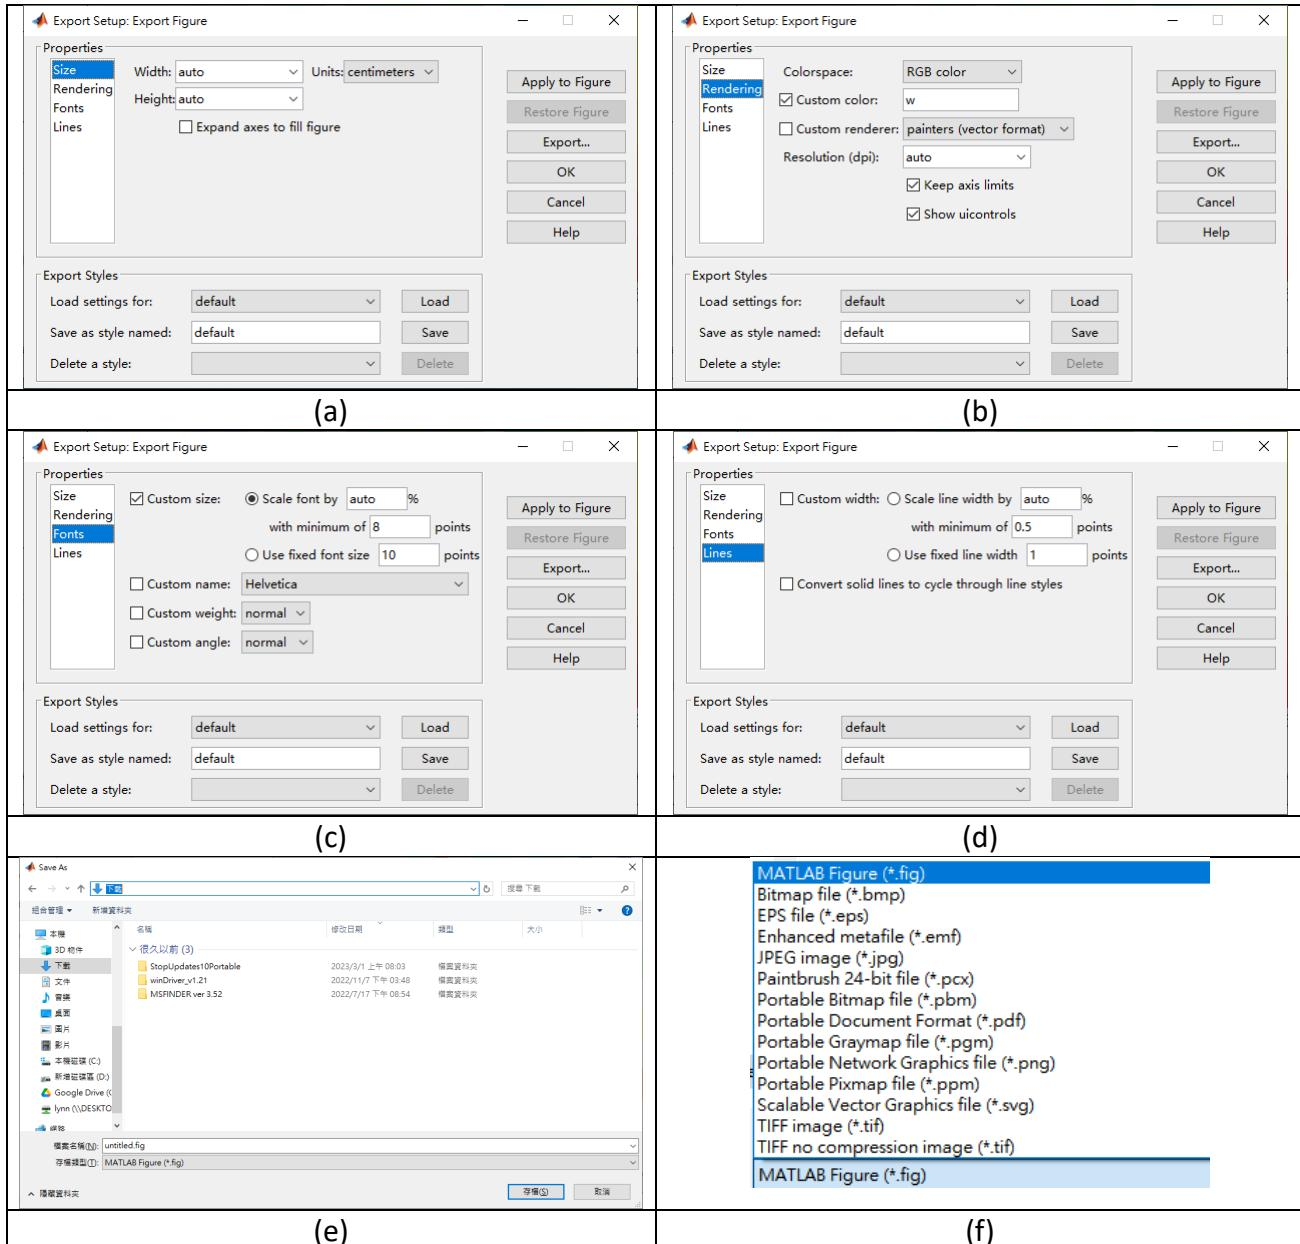

Figure 13. The windows to export the heatmap image.
- 7 Export the heatmap plot:** The quantitation heatmap can be exported to an image file by pressing the “Export Plot” button on the top of the heatmap. A window will pop up to let the user to adjust the size of the image, as shown in Figure 13(a). By clicking on the Rending in the left panel, the user can also select the color space, background color, renderer, and resolution, as shown in Figure 13(b). By clicking on the Fonts in the left panel, the user can change the font properties in the plot, as shown in Figure 13(c). By clicking on the Lines in the left panel, the user can also change the font properties in the plot, as shown in Figure 13(d). After the all the changes are made, the user can click on the “Export” button in the righthand side, a new window will appear to select the folder and file name of the output image as well as the image format, as shown in Figure 13(e). The supported image formats are listed in Figure13(f).
There are three more buttons at the right-hand side of the correction methods. The “More >” button is used to show the same compound found in the other ion chromatograms. Once pressed, the text of the button will be changed to “Less <” and an additional panel (panel (c) in Figure 17) will appear to show such plots, as shown in Figure 30. This panel shows the overlapped peaks (zoomed-in horizontally) of all sample files at the top and the detected peak in individual file below for easy inspection of the same compound across sample files. The plot of overlapped peaks is useful in checking the consistency of the compound across all the sample files. To remove the panel, the user can press the “Less <” button. The user can further use the four buttons next to the overlapped plot to zoom out the peaks horizontally to the original RT range, to zoom in the peaks horizontally to the detected peaks only, to normalize the peak heights, and to resume the original heights, as shown in Figure 31. The “Export” button is used to export the ion chromatogram to an image file. Similar to the export of heatmap, once the button is pressed, a window will appear to let the user to choose rendering methods, line width, font type and size, resolution, image format, and file name of the image (refer to Figure 13 for details). Finally, the “Close” button is used to close the “Multiple Reaction Monitoring” window.